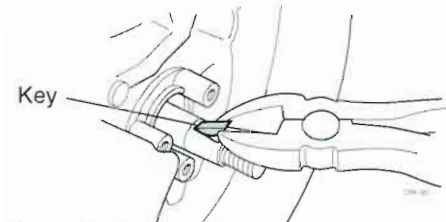

Figure 8.6 Removing the Woodruff Key
STEP 4. Use diagonal pliers to remove the crankshaft woodruff key from the machined slot on the flywheel end of the crankshaft (Figure 8.6).